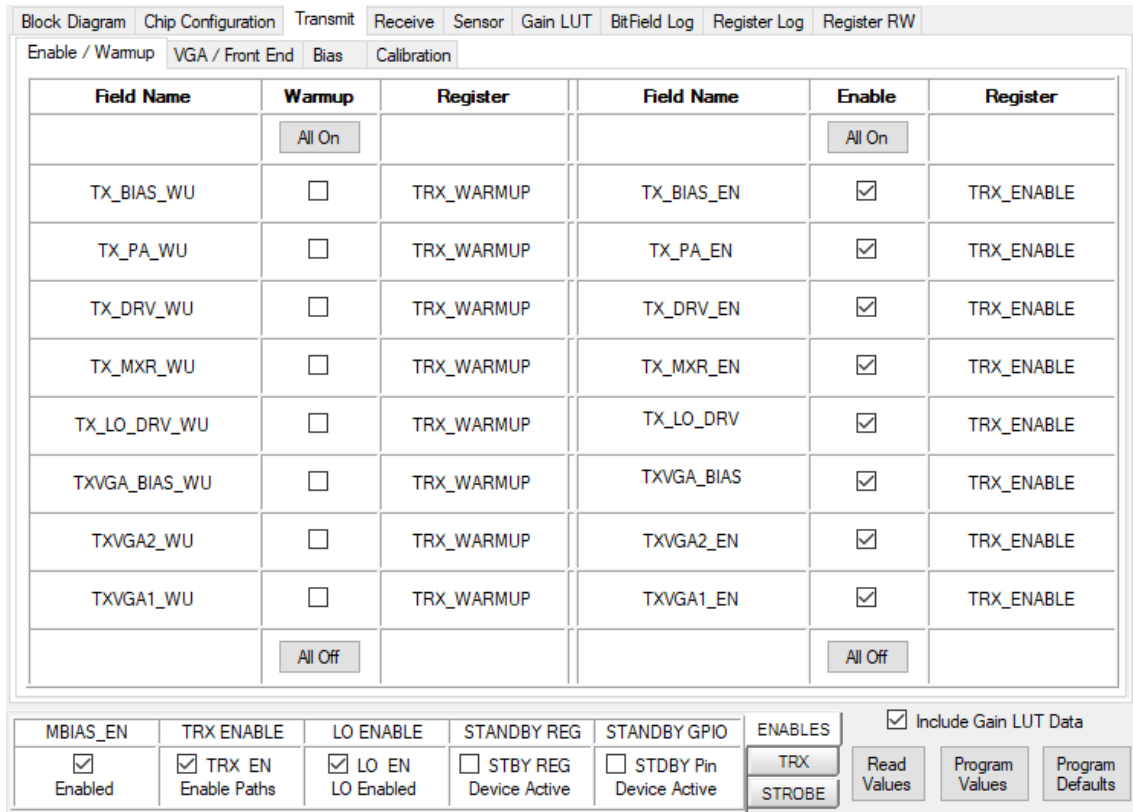

Figure 15. Transmit: Enable / Warmup Panel
10. In transmit mode, individual transmit building blocks and their warmup states can be configured by selecting **Transmit panel** tab (Figure 5, item 10) and **Enable / Warmup** subpanel tab as shown in Figure 15.